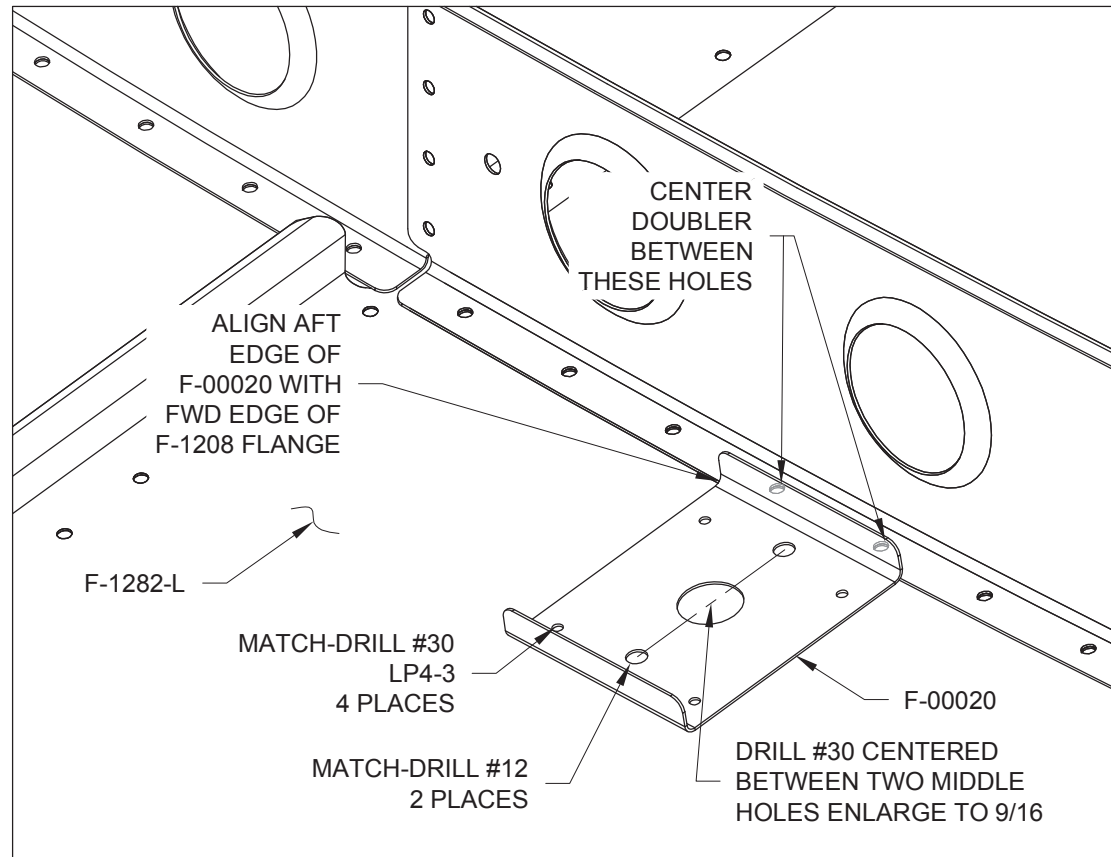

FIGURE 1: INSTALLING THE ANTENNA DOUBLER
Step 2: Rivet the F-00020 Antenna Doubler to the F-1282-L Bottom Left Skin using the rivets called out in Figure 1.